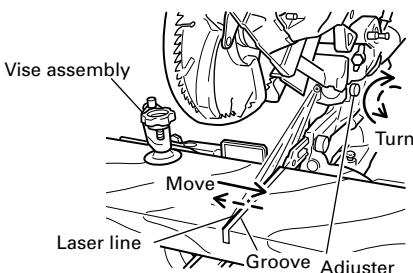

Fig. 19
(1) Light up the laser marker and make a groove of about  $3/16"$  (5 mm) deep on the workpiece that is about  $25/32"$  (20 mm) in height and  $5-29/32"$  (150 mm) in width. Hold the grooved workpiece by vise as it is and do not move it. For grooving work, refer to "13.Groove cutting procedures" on page 37.
(2) Then, turn the adjuster and shift the laser line. (If you turn the adjuster clockwise, the laser line will shift to the right and if you turn it counterclockwise, the laser line will shift to the left.) When you work with the ink line aligned with the left side of the saw blade, align the laser line with the left end of the groove. (Fig. 19) When you align it with the right side of the saw blade, align the laser line with the right side of the groove.